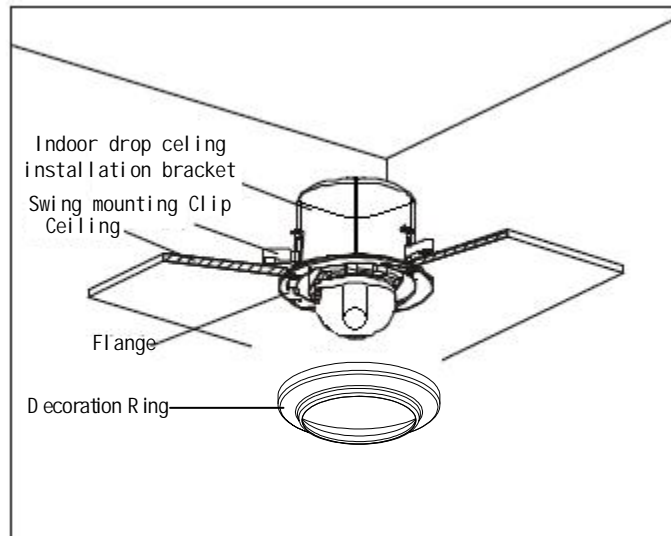

Figure 21
- 7) Turn the three mounting clip bolts to let the mounting clips press the ceiling and swing out gradually. The ceiling is clamped between the mounting clips and the flange, thus the back box is secured above the ceiling. ( Figure 21 ) .